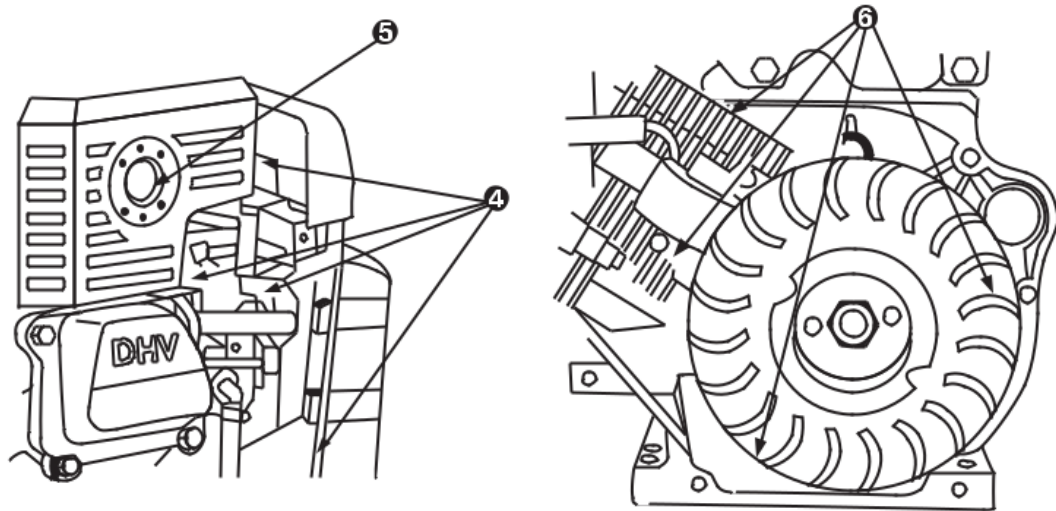

Figure-14
- * Every 100 hours or every season, remove the starter guard and clean the area shown in **Figure-14**.